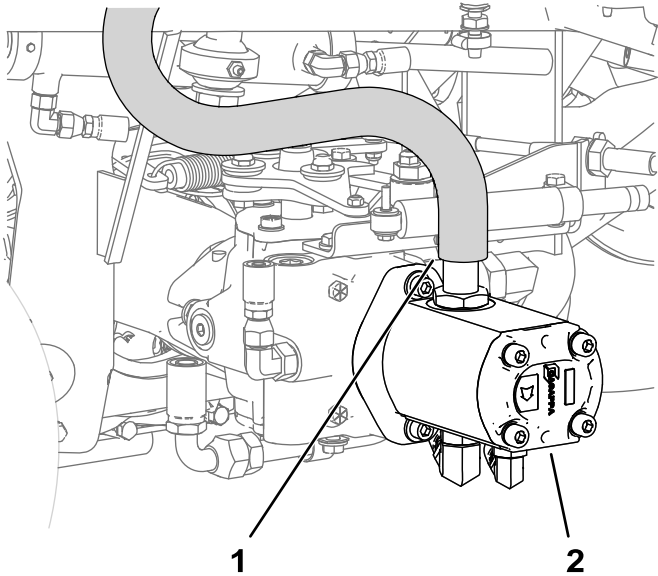

Figure 1
2. Clamp the pump inlet hose and remove the hose clamp securing it to the pump assembly (Figure 1).